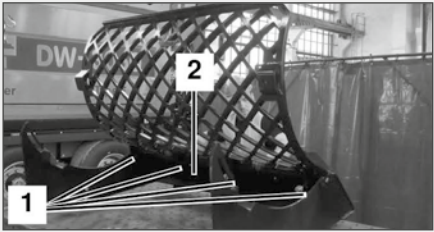

Fig. 5: Positioning the rear basket grid
6. Place the replaceable rear basket grid at the edge of the replaceable rear basket grid holder, making sure that the four hex bolts on the hooks of the replaceable rear basket grid (fig. 5/1) are firmly positioned against the weld axis of the replaceable rear basket grid holder (fig. 5/2).